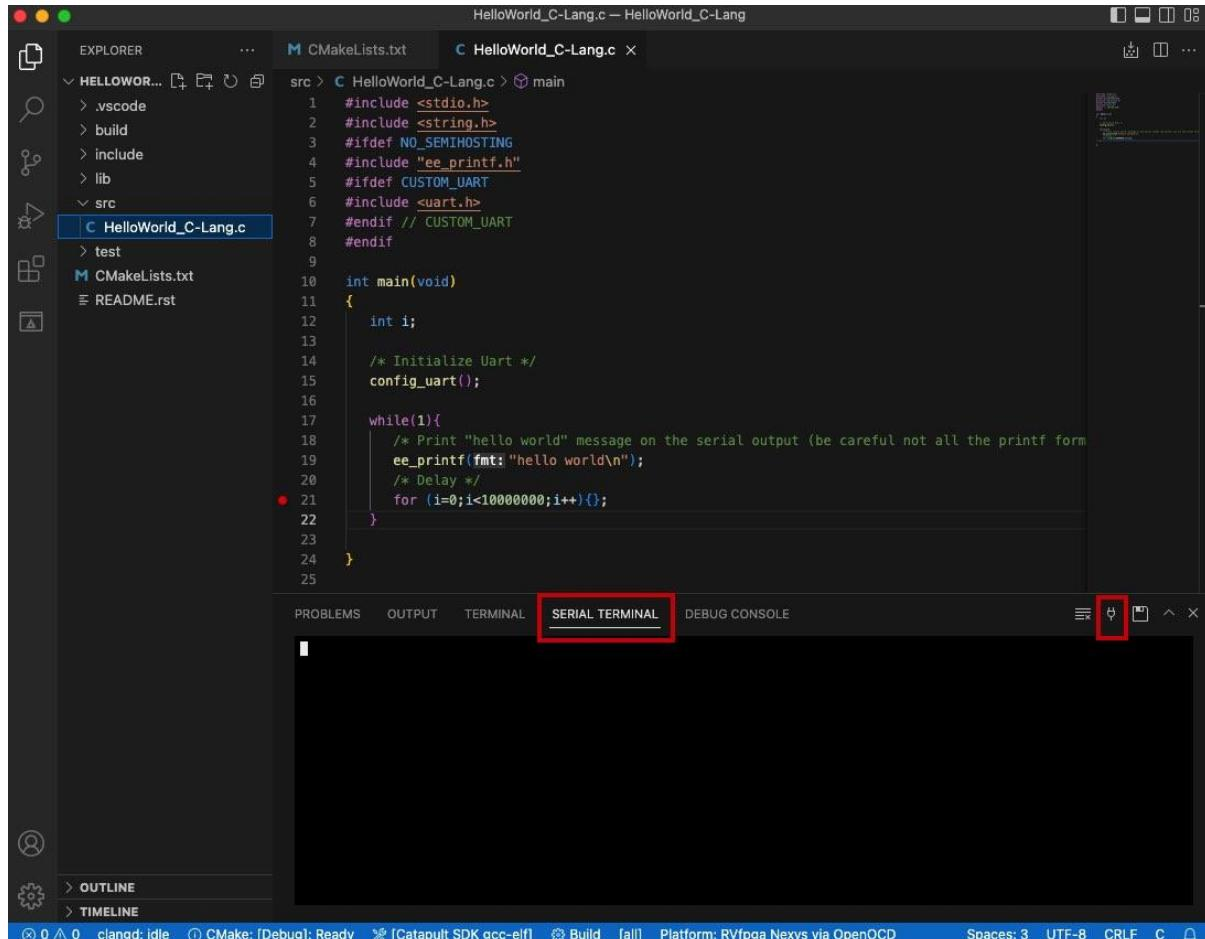

Figure 56: Serial terminal connect icon
3. Click the SERIAL TERMINAL tab in the terminal section of Catapult Studio, then click the connect icon (Figure 56). This leads you through a set of configuration options to connect to the Nexys serial port. Firstly you must select the correct serial port from a